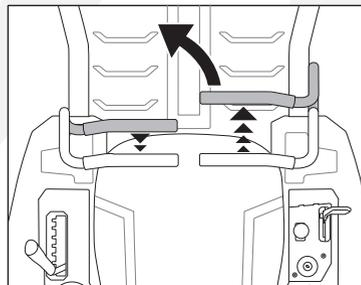

Fig.16B
2. To turn to the left, move the left drive control lever rearward of the right lever. (Fig.16B)